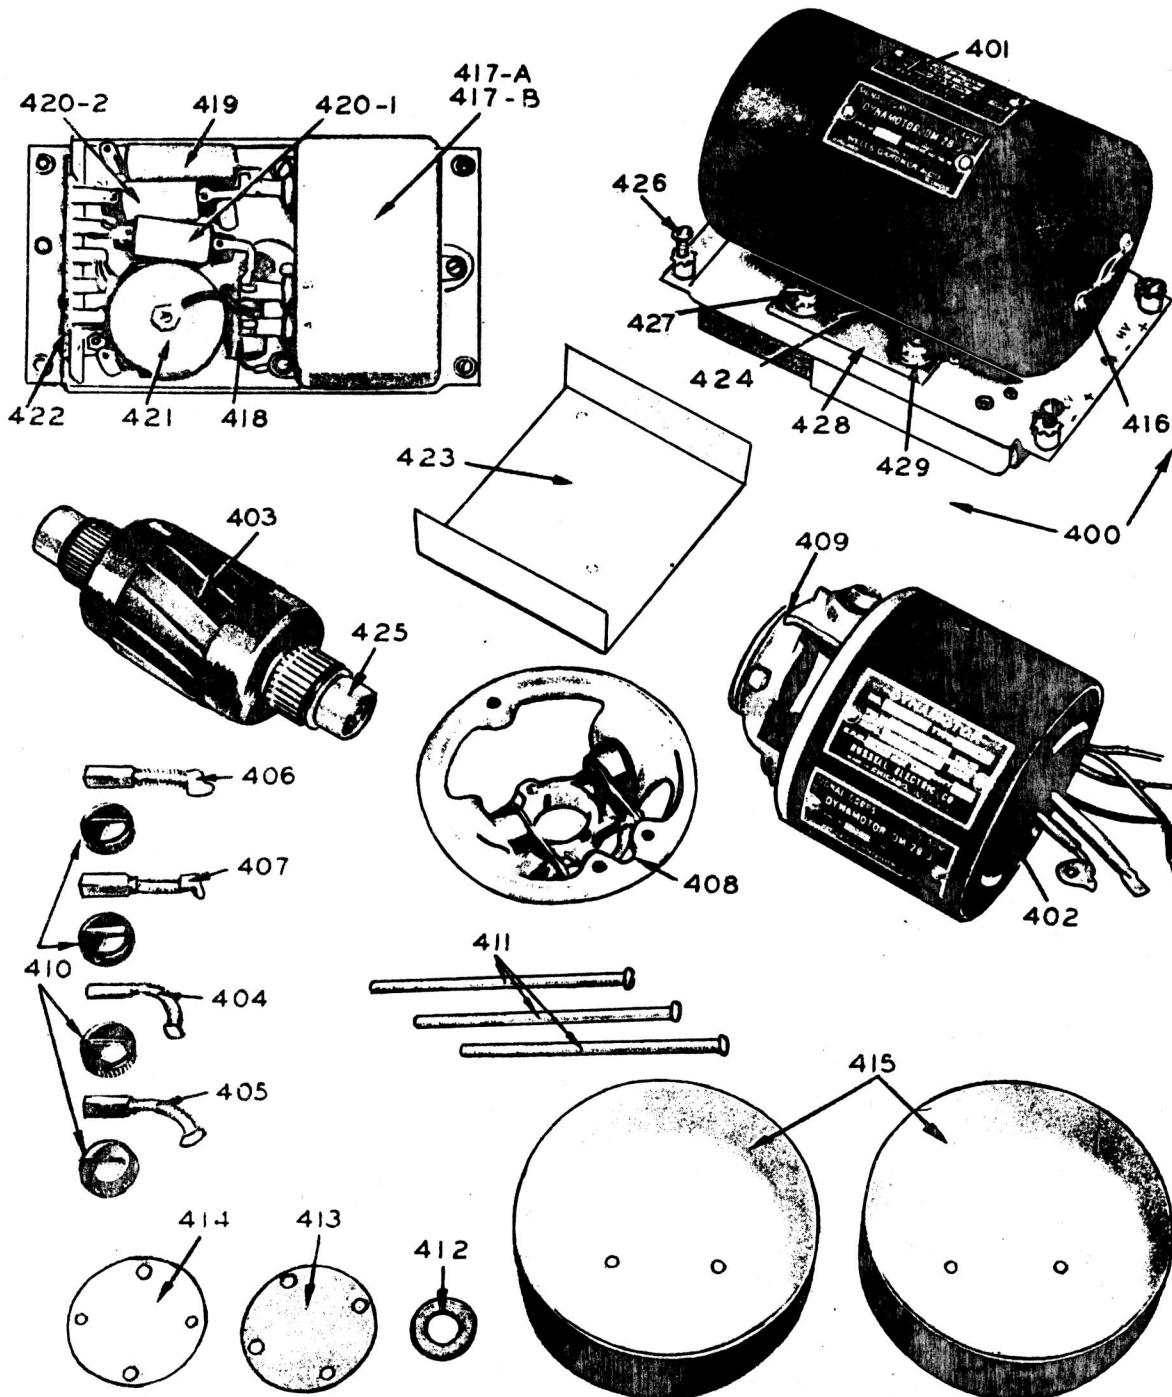

Figure 8 — Dynamotor DM-28-J and Filter
*a. REMOVAL FROM CHASSIS.*—The dynamotor and filter assembly (Figure 8, reference 400) may be removed easily from the receiver chassis by repeating the following steps in the order given:
(1) Loosen two thumbscrews 299 on the front panel, and remove the chassis from the cabinet.
(2) Loosen the five screws on the dynamotor terminal strip 422, and withdraw the five leads with spade terminals from under them. Retighten the five screws partially in order that they will clear the chassis when the dynamotor is removed.
(3) Push the left (from front of chassis) thumb-screw rod stop spring towards the end plate with a screwdriver, and withdraw thumbscrew rod 299 until the second stop position is reached.
(4) Loosen the four captive screws 426 which fasten the dynamotor to the chassis, and lift the dynamotor vertically from the receiver.